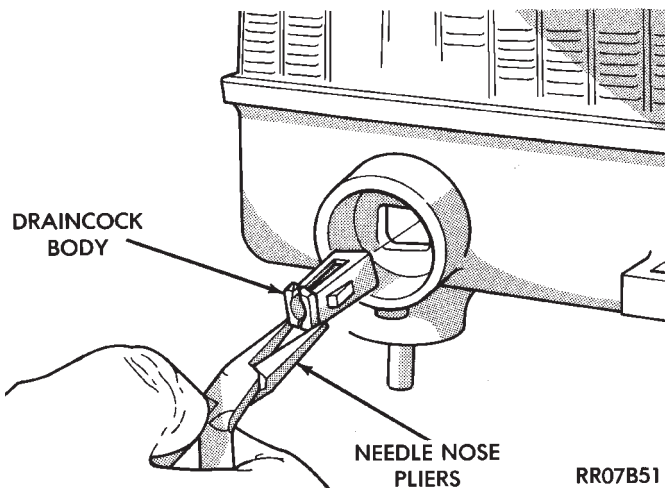

Fig. 45 Draincock Body Removal
(2) Using a pair of needle nose pliers, compress draincock body and pull straight out of radiator (Fig. 45).